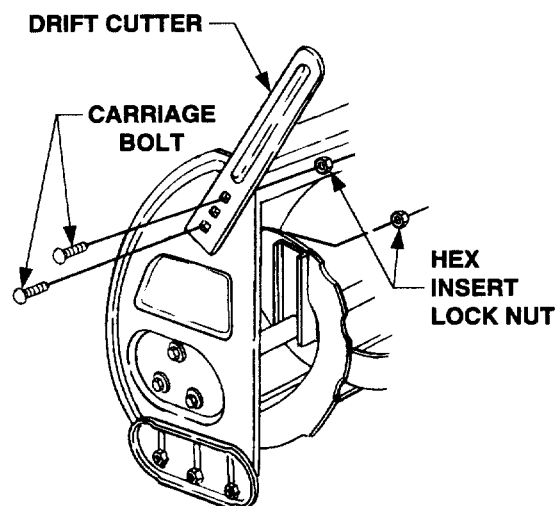

Figure 15
Drift cutters on both sides of the auger housing can be adjusted to the up position for a higher cut. Refer to Figure 15 and proceed as follows:
- Turn the drift cutters to the up position and secure with the carriage bolts and lock nuts as shown in Figure 15.